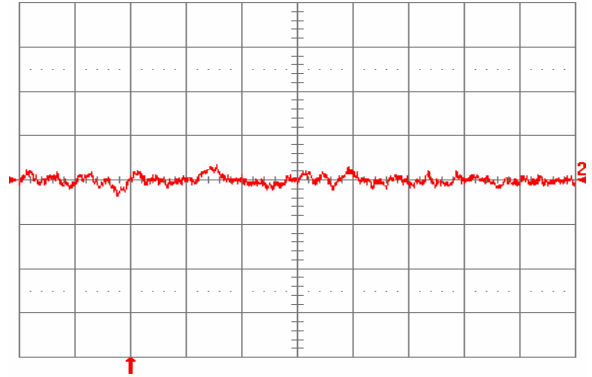

**Fig. 2.5V.14:** Test Setup for measuring input reflected ripple currents,  $i_c$  and  $i_s$ .
**Fig. 2.5V.1:** Available load current vs. ambient air temperature and airflow rates for SQ48T15025 converter with D height pins mounted vertically with  $V_{in} = 48\text{ V}$ , air flowing from pin 3 to pin 1, and maximum FET temperature  $\leq 120^\circ\text{C}$ .
**Fig. 2.5V.2:** Available load current vs. ambient air temperature and airflow rates for SQ48T15025 converter with D height pins mounted horizontally with  $V_{in} = 48\text{ V}$ , air flowing from pin 3 to pin 1, and maximum FET temperature  $\leq 120^\circ\text{C}$ .
**Fig. 2.5V.3:** Available load current vs. ambient air temperature and airflow rates for SQ48S15025 converter mounted vertically with  $V_{in} = 48\text{ V}$ , air flowing from pin 3 to pin 1, and maximum FET temperature  $\leq 120\text{ }^{\circ}\text{C}$ .
**Fig. 2.5V.4:** Available load current vs. ambient air temperature and airflow rates for SQ48S15025 converter mounted horizontally with  $V_{in} = 48\text{ V}$ , air flowing from pin 3 to pin 1, and maximum FET temperature  $\leq 120\text{ }^{\circ}\text{C}$ .
**Fig. 2.5V.5:** Efficiency vs. load current and input voltage for SQ48T/S15025 converter mounted vertically with air flowing from pin 3 to pin 1 at a rate of 300 LFM (1.5 m/s) and  $T_a = 25\text{ }^{\circ}\text{C}$ .
**Fig. 2.5V.6:** Efficiency vs. load current and ambient temperature for SQ48T/S15025 converter mounted vertically with  $V_{in} = 48\text{ V}$  and air flowing from pin 3 to pin 1 at a rate of 200 LFM (1.0 m/s).
**Fig. 2.5V.7:** Power dissipation vs. load current and input voltage for SQ48T/S15025 converter mounted vertically with air flowing from pin 3 to pin 1 at a rate of 300 LFM (1.5 m/s) and  $T_a = 25\text{ }^\circ\text{C}$ .
**Fig. 2.5V.8:** Power dissipation vs. load current and ambient temperature for SQ48T/S15025 converter mounted vertically with  $V_{in} = 48\text{ V}$  and air flowing from pin 3 to pin 1 at a rate of 200 LFM (1.0 m/s).
**Fig. 2.5V.9:** Turn-on transient at full rated load current (resistive) with no output capacitor at  $V_{in} = 48\text{ V}$ , triggered via ON/OFF pin. Top trace: ON/OFF signal (5 V/div.). Bottom trace: output voltage (1 V/div.). Time scale: 2 ms/div.
**Fig. 2.5V.10:** Turn-on transient at full rated load current (resistive) plus 10,000  $\mu\text{F}$  at  $V_{in} = 48\text{ V}$ , triggered via ON/OFF pin. Top trace: ON/OFF signal (5 V/div.). Bottom trace: output voltage (1 V/div.). Time scale: 2 ms/div.
**Fig. 2.5V.11:** Output voltage response to load current step-change (3.75 A – 7.5 A – 3.75 A) at  $V_{in} = 48$  V. Top trace: output voltage (100 mV/div.). Bottom trace: load current (5 A/div.). Current slew rate: 0.1 A/ $\mu$ s.  $C_o = 1 \mu$ F ceramic. Time scale: 0.2 ms/div.
**Fig. 2.5V.12:** Output voltage response to load current step-change (3.75 A – 7.5 A – 3.75 A) at  $V_{in} = 48$  V. Top trace: output voltage (100 mV/div.). Bottom trace: load current (5 A/div.). Current slew rate: 5 A/ $\mu$ s.  $C_o = 450 \mu$ F tantalum + 1  $\mu$ F ceramic. Time scale: 0.2 ms/div.
**Fig. 2.5V.13:** Output voltage ripple (20 mV/div.) at full rated load current into a resistive load with  $C_o = 10 \mu$ F tantalum + 1  $\mu$ F ceramic and  $V_{in} = 48$  V. Time scale: 1  $\mu$ s/div.
**Fig. 2.5V.15:** Input reflected ripple current,  $i_c$  (100 mA/div.), measured at input terminals at full rated load current and  $V_{in} = 48$  V. Refer to Fig. 2.5V.14 for test setup. Time scale: 1  $\mu$ s/div.
**Fig. 2.5V.16:** Input reflected ripple current,  $i_s$  (10 mA/div.), measured through 10  $\mu$ H at the source at full rated load current and  $V_{in} = 48$  V. Refer to Fig. 2.5V.14 for test setup. Time scale: 1  $\mu$ s/div.
**Fig. 2.5V.17:** Output voltage vs. load current showing current limit point and converter shutdown point. Input voltage has almost no effect on current limit characteristic.
**Fig. 2.5V.18:** Load current (top trace, 20 A/div., 20 ms/div.) into a 10  $m\Omega$  short circuit during restart, at  $V_{in} = 48$  V. Bottom trace (20 A/div., 1 ms/div.) is an expansion of the on-time portion of the top trace.